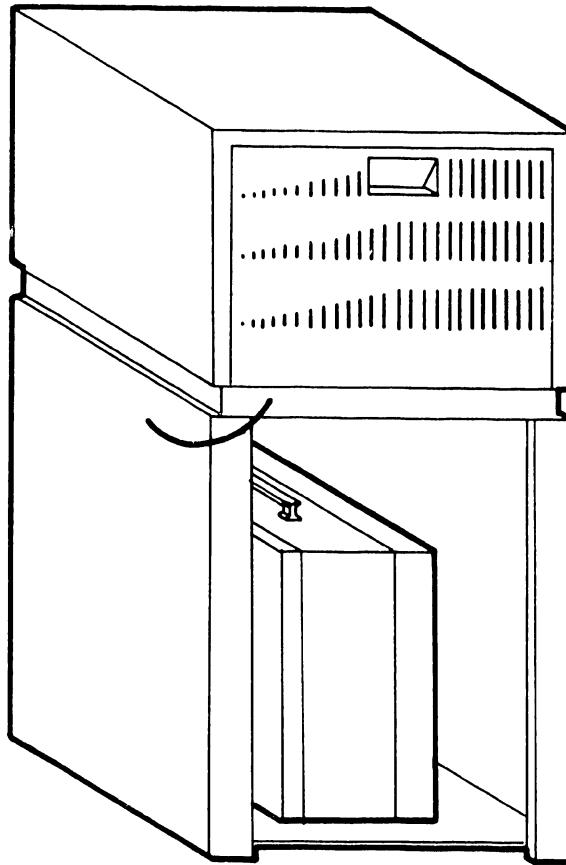

Figure 2-15. DPU Mounted In Bottom Of Stand
- h. Replace the unit cover(s) and place the DPU in the disk drive stand as shown in figure 2-15.